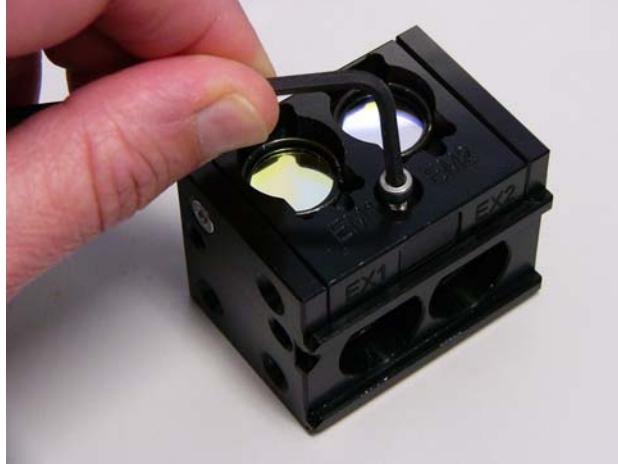

Figure 4: Remove the screw from between the EM1 and EM2 positions
3. Using a 7/64" hex key, remove the screw and washer located between the emission filter positions (***Figure 4***).